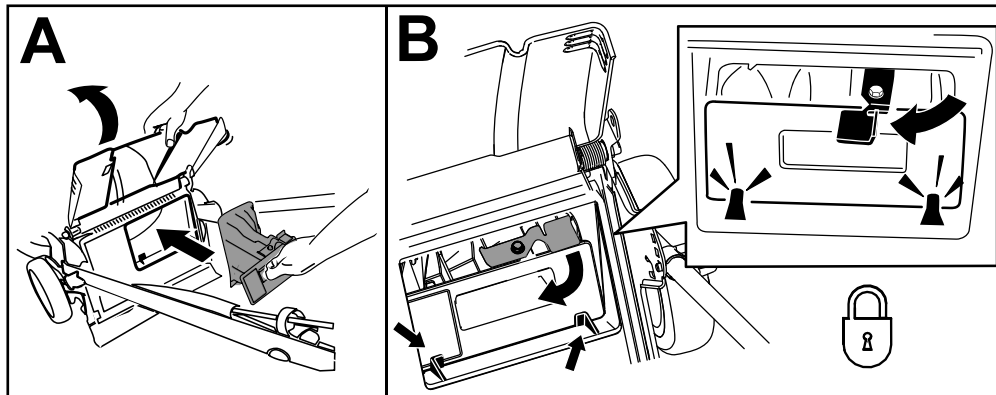

Figure 19
**Important:** Ensure that the rear plug is locked in place. To lock the plug, raise the rear deflector (Figure 19), firmly push the plug in until it snaps into place behind the tabs, and rotate the lever on the plug to the left (Figure 19).